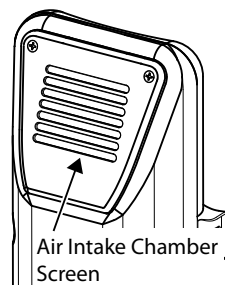

FIGURE 27.
1. At least twice annually inspect the air intake chamber screen (Figure 27) for any dust or debris that may have accumulated on the louvers. NOTE: If the water heater is located in an area that is subjected to lint and dirt, it may be necessary to check the air intake chamber screen more frequently.